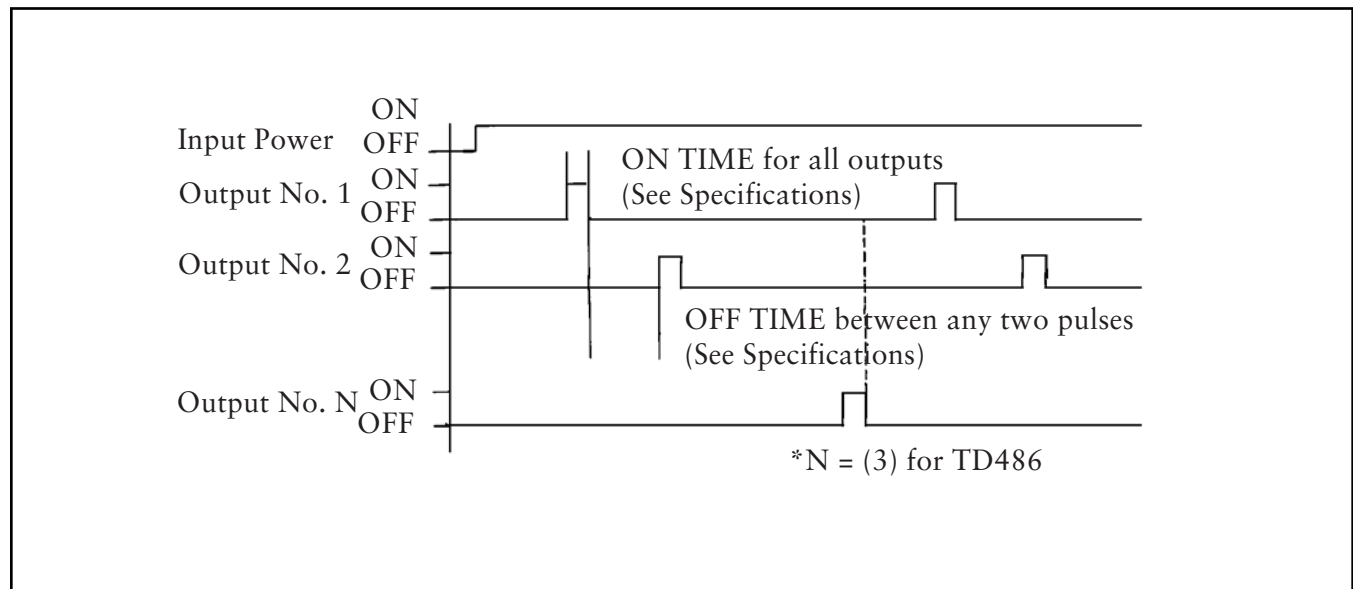

Figure 3, Operating Logic Diagram
1. **Operating Logic:** Input power is applied to L1 and L2 of the timer control circuit board which is in parallel with the low voltage (120/60/1) coil of the fan magnetic starter. Upon fan start-up, power is supplied to the control board and the preset OFF time is initiated. At the end of the OFF time, the control will energize a solenoid to provide the cleaning pulse for one segment of the filter elements and then step to the next segment. This cycle is continuous unless an auxiliary control, such as a pressure switch, is used to control the timer. See Figure 3, Operating Logic Diagram.